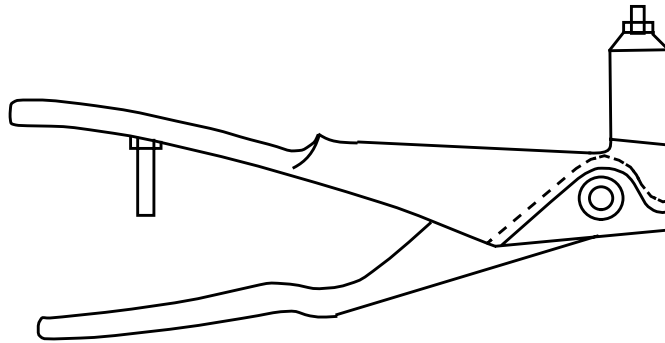

FIGURE 4 - HAND RIVETER
- 4.2.3 Hand riveters (e.g., TS.414.03.12, Cherry G29 or Cherry G30. See Figure 4 for a general description of a hand riveter.